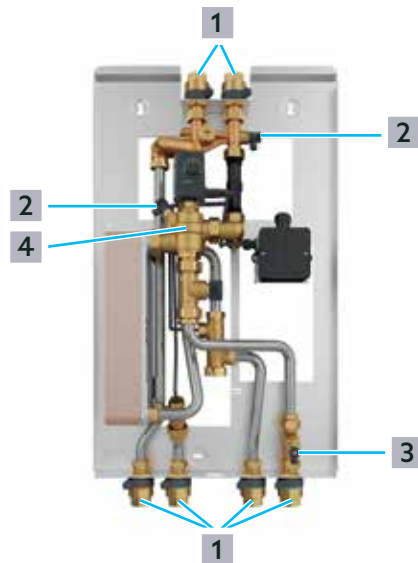

Fig. 16: Setting the ceramic disc valves
- The zone valve ( (4) in Fig. 16 on page 20) must be open.
- The vent valves ((2) in Fig. 16 on page 20) and the drain valve ((3) in Fig. 16 on page 20) must be closed.